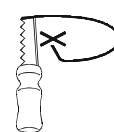

FIG.8
1. Cut a hole in the ceiling (3-3/4" for Model 302 or 4-3/4" for Model 402), using the mounting frame as template (if applicable). (Fig.8)